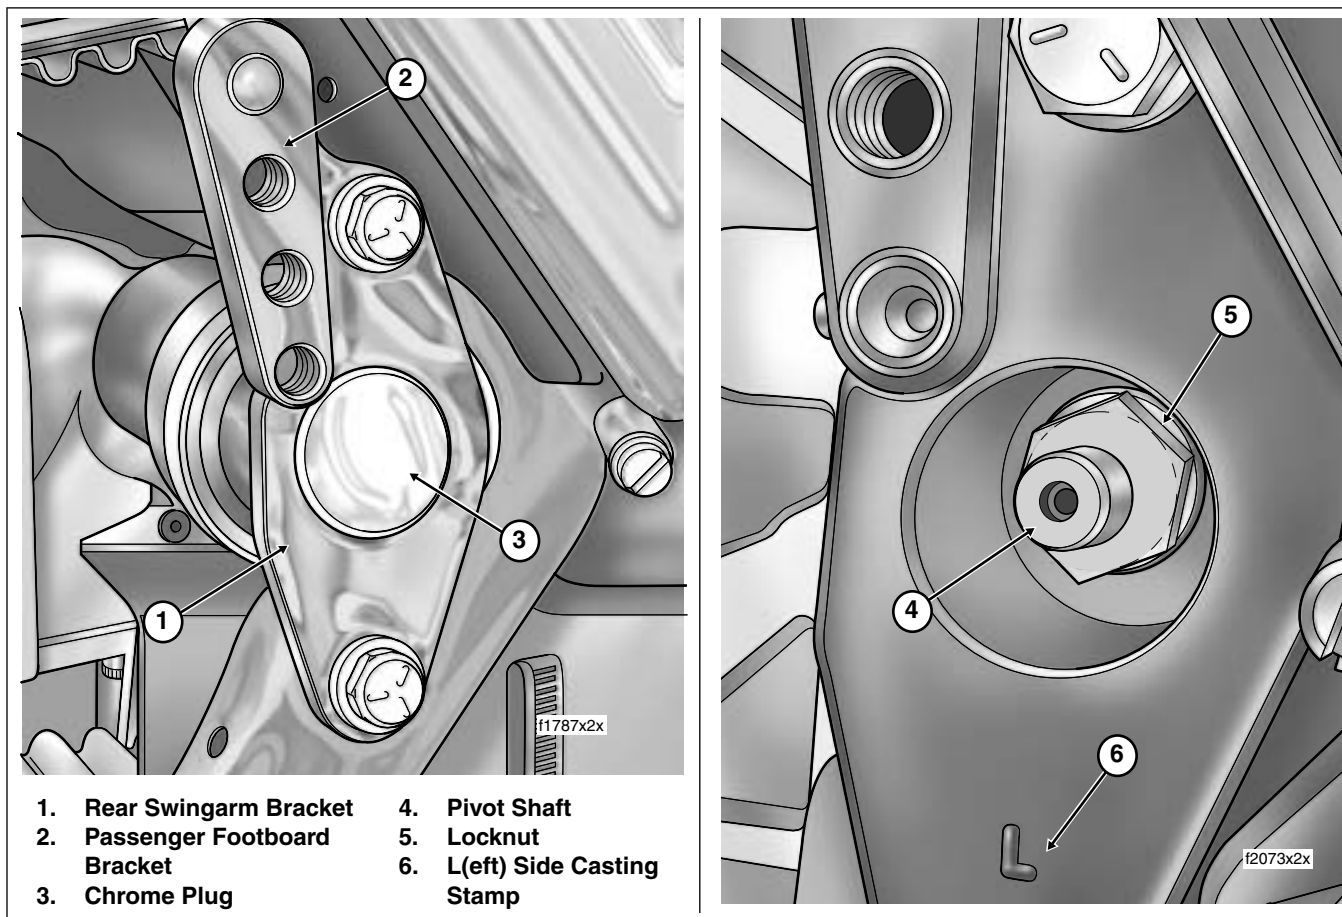

Figure 2-105. Remove Chrome Plugs and Check Pivot Shaft Locknut Torque (Left Side View)
*At the required service interval (see Section 1.2 **MAINTENANCE SCHEDULE**), remove the decorative chrome plugs in the rear swingarm brackets and check the torque on the pivot shaft locknuts. See Figure 2-105. Holding right side nut on the pivot shaft, tighten left side locknut to 40-45 ft-lbs (54-61 Nm). Then hold left side nut and tighten right side locknut using the same torque value.*